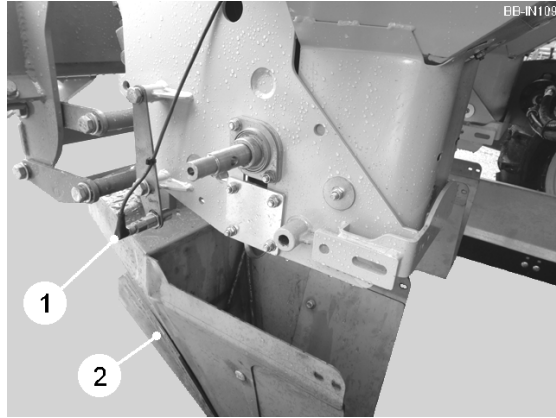

Fig. 11
The sensor (item 1, fig. 11) detects the seed potatoes as they fall from the cups into the opener (item 2, fig. 11). In normal conditions, the seed monitors will flash on the Home Screen indicating potatoes passing the sensors. If there is a blockage the seed monitor for that row will remain illuminated and a buzzer will sound. If the buzzer sounds too frequently without a blockage occurring, the delay can be adjusted or the buzzer switched off from the touch-screen terminal.